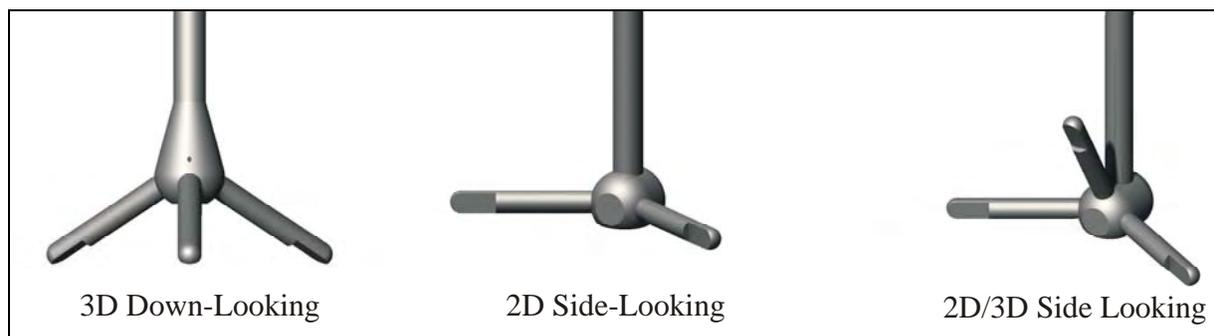

Figure 35 – FlowTracker Probe Configurations
Several FlowTracker probe configurations (Figure 35) are available for different applications.
- Three probe types are available (Figure 35).